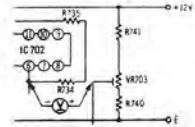

Fig. 13
<p>Ⓔ Capstan motor circuit adjustment</p> <p>Condition:</p> <ul style="list-style-type: none"> • Playback mode <p>Equipment:</p> <ul style="list-style-type: none"> • VTVM • Oscilloscope 	<p>A. Standard DC power supply voltage adjustment</p> <ol style="list-style-type: none"> 1. Measure the DC voltage between central point of VR703 and ⑥ terminal of IC702 as shown below. <div style="border: 1px solid black; padding: 2px; width: fit-content; margin: 10px auto;"> Standard voltage: $0 \pm 0.05V$ </div> <ol style="list-style-type: none"> 2. If measured voltage is not within standard, adjust VR703. <p>B. Phase lock point adjustment</p> <ol style="list-style-type: none"> 1. Measure the DC voltage between ④ terminal of IC702 and ground as shown in fig. 13. <div style="border: 1px solid black; padding: 2px; width: fit-content; margin: 10px auto;"> Standard voltage: $5.2 \pm 0.1V$ </div> <ol style="list-style-type: none"> 2. If measured voltage is not within standard, adjust VR702. <p>C. Position detecting signal output level adjustment</p> <ol style="list-style-type: none"> 1. Connect oscilloscope to test point (T.P. P-V). 2. Measure the peak-to-peak voltage of position detection signal of test point with the oscilloscope. 3. If the measured signal voltage is markedly different from the voltage shown below, make the necessary adjustment with the VR701.